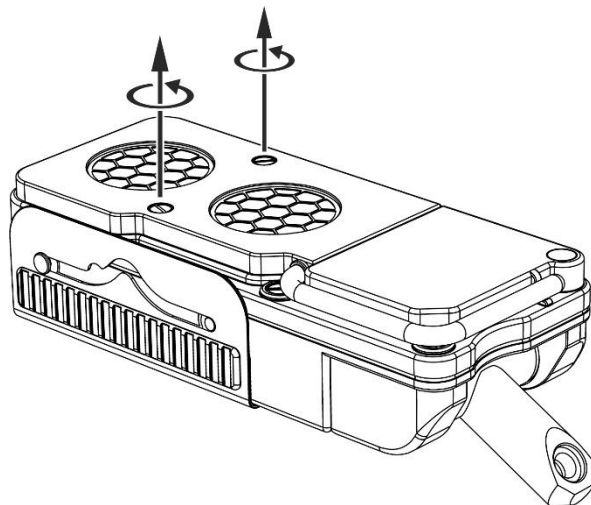

Figure 3.2 – Removing the protection cover of ABG probe
- loosen the two captive screws holding the protection cover and remove the cover (Figure 3.2);
- replace the O ring (1):
- replace the O rings (1):